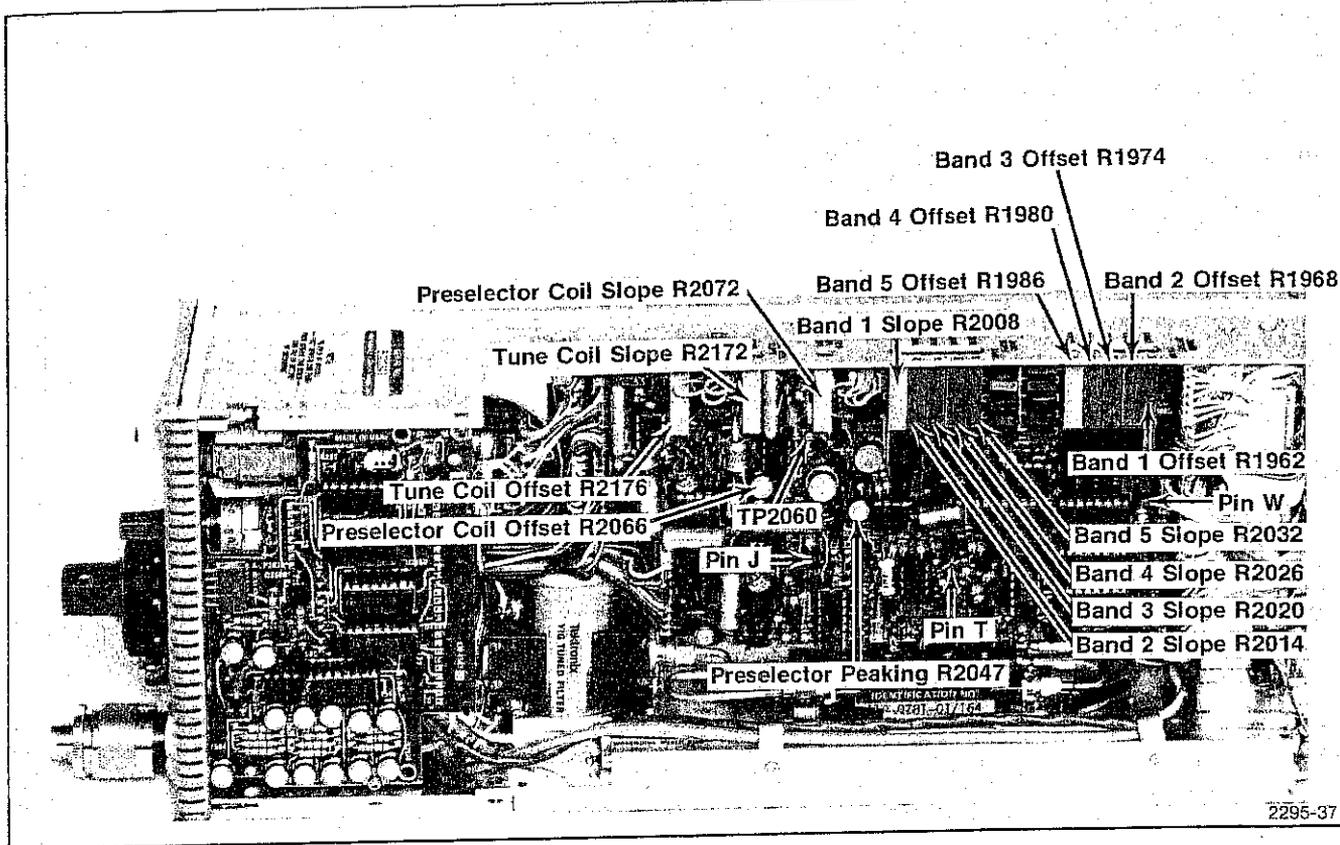
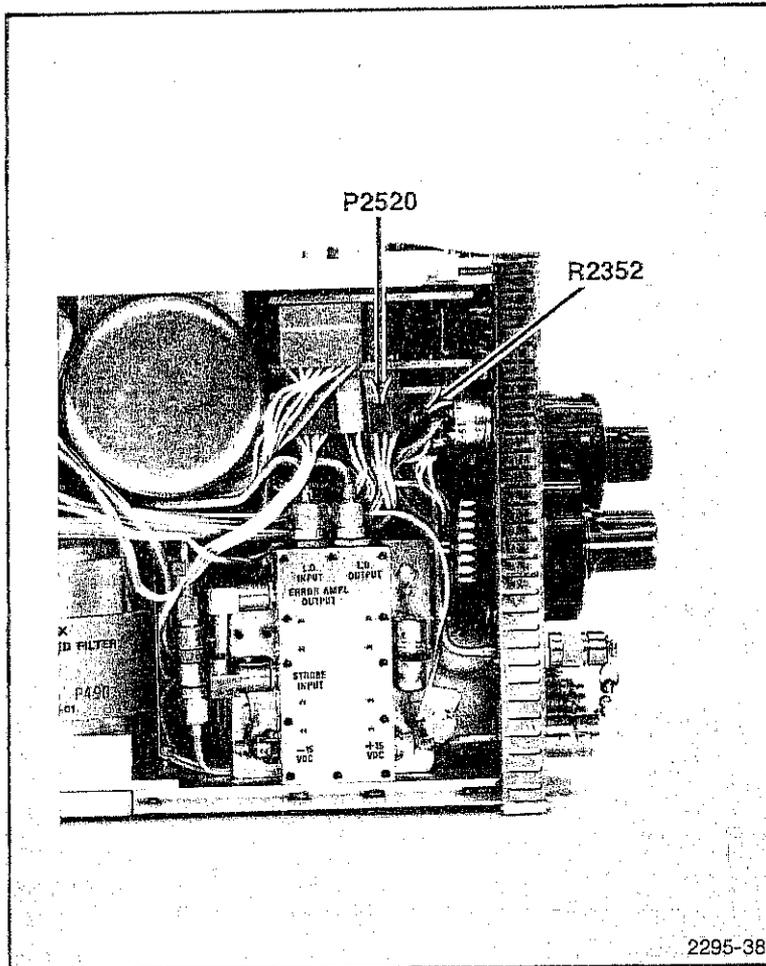

Fig. 4-29. Adjustments and Test Point Location on the 1st LO and Preselector Driver.
Fig. 4-30. Location of Reference Voltage Adjust and P2520.
c. Adjust Tune Coil Slope R2172 (see Fig. 4-29) for 100 MHz markers per division. If using the Cal Out signal, adjust for 500 MHz per five divisions.
d. Using a DVM or a dc-coupled test oscilloscope, adjust RF Voltage (Adj R2352) on the Reference Voltage board (see Fig. 4-30) -10.0 volts between pin W and Tune Ref Gnd (pin J) on the Preselector Driver board (see Fig. 4-29).
e. Change the FREQ.SPAN/DIV to 2 MHz and measure the voltage at pin T of the Preselector Driver board (see Fig. 4-29). Adjust CENTER FREQUENCY control for a reading of 0 volt (center frequency is not at the center of the band, or 2.490 GHz).
f. Adjust Tune Coil Offset R2176 (see Fig. 4-29) so the 2.5 GHz marker is on the far right graticule line. This is 10 MHz above center.
2. With the FREQ SPAN/DIV at 2 MHz and the CENTER FREQUENCY set for 0 V at pin T of the Preselector Driver (see Fig. 4-29), the display should contain both the 2.5 GHz calibrator signal and its lower image response.
3. Press and release DEGAUSS, then adjust Tune Coil Offset R2176 (see Fig. 4-29) to position the 2.5 GHz marker on the far right graticule line.